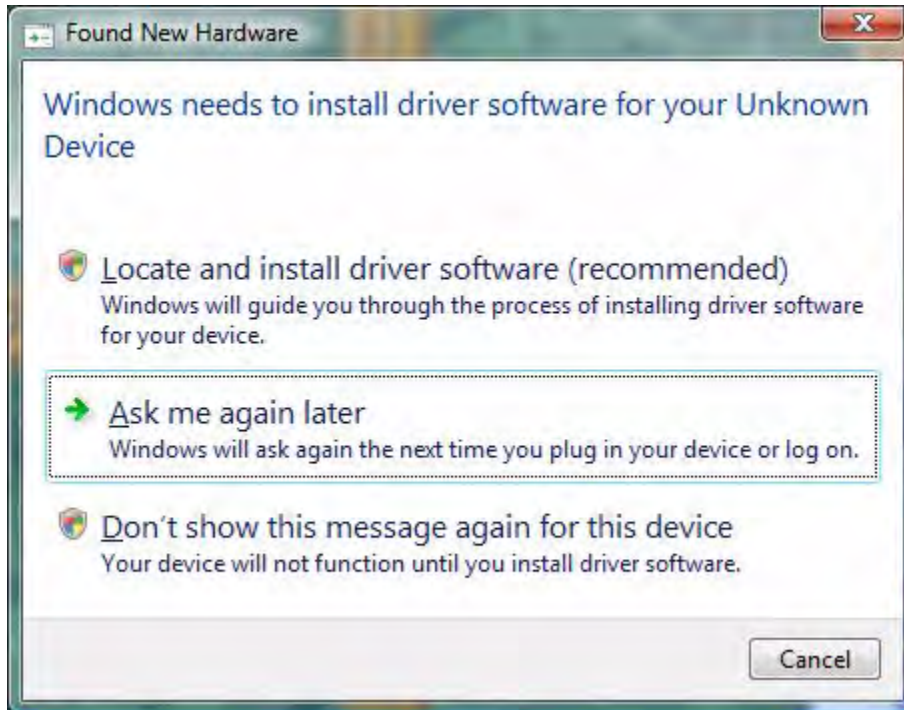

Figure 88. Found New Hardware Dialog, Windows Vista
2. After the PC detects the new hardware, it will display the Found New Hardware Wizard dialog box, shown in Figure 88. Click **Locate and install driver software (recommended)**.